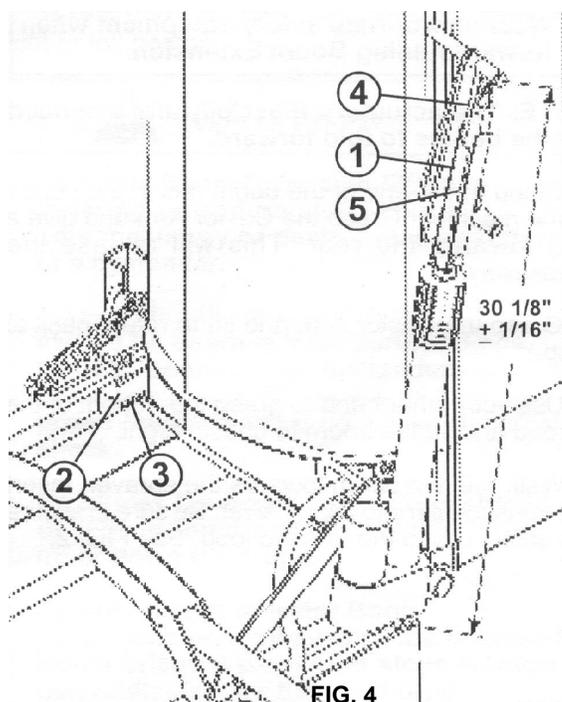

FIG. 4
2. Measure the length of the Actuator and Adjustment Link . It should be $30\text{-}1/8" \pm 1/16"$ from the center of the Actuator Bolt to the center of the Adjustment Link Bolt. (FIG. 4)